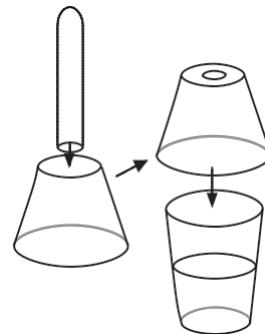

Figure 1.
3. Press the hot mouth of the test tube in the center of the bottom of the wide mouth cup, until a hole is melted through. This will serve as the lid for the tall cup (see Figure 1).
- Cap the tall cup with the domed lid or with the wide-mouth cup with the hole in the bottom (see Figure 1).